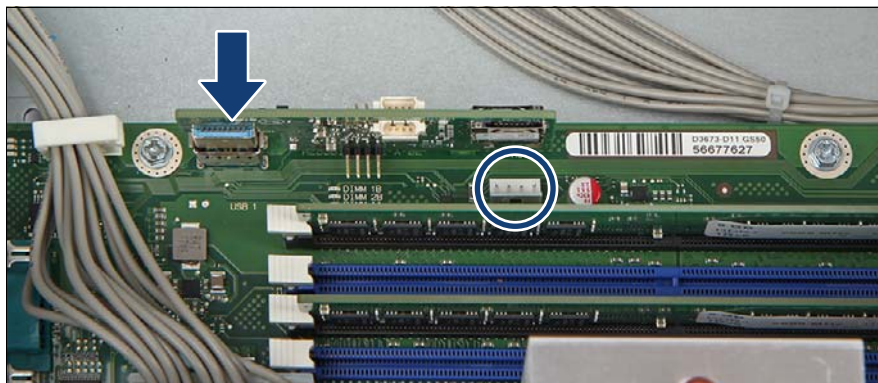

Figure 293: Installing the Dual microSD 64GB Enterprise
- ▶ Disconnect the cable from the connector "ROC" on the system board (see figure 293).